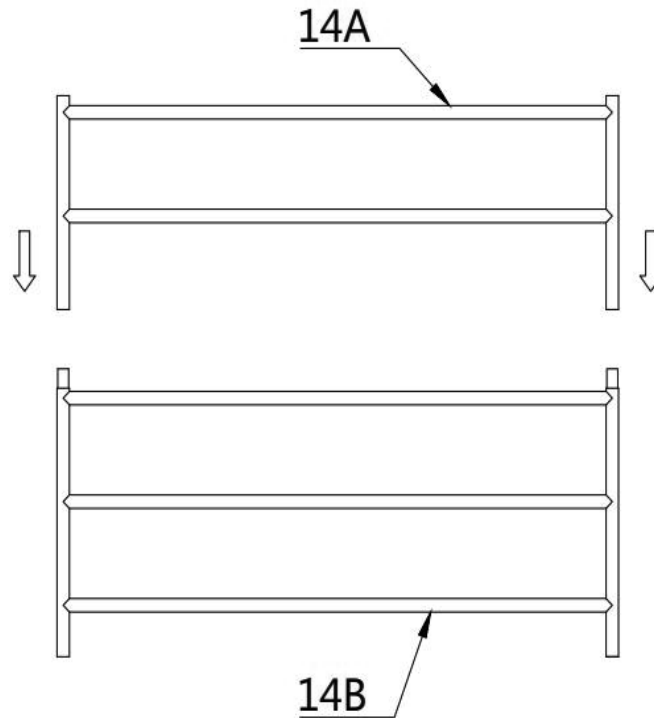

**Figure 8**
**Step 4 : Door column installation, the front and rear mounting methods are the same (refer to figure 8).**